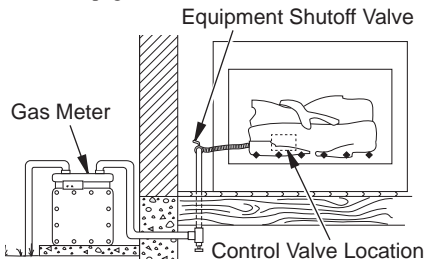

Figure 9 - Checking Gas Joints for Natural Gas
3. Check all joints from gas meter to equipment shutoff valve for natural gas or propane/LP supply to equipment shutoff valve for propane/LP (see Figure 9 or 10). Apply noncorrosive leak detection fluid to all joints. Bubbles forming show a leak.
4. Check all joints from equipment shutoff valve to control valve (see Figure 9 or 10). Apply noncorrosive leak detection fluid to all joints. Bubbles forming show a leak.